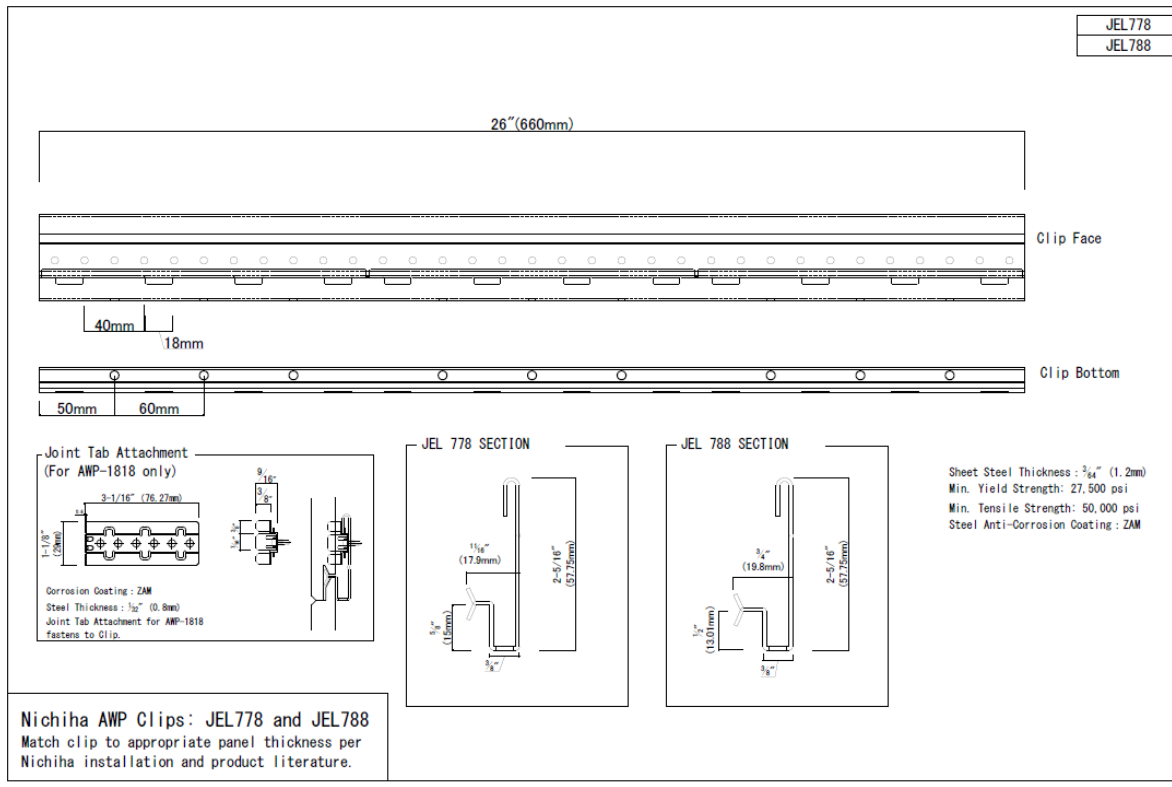
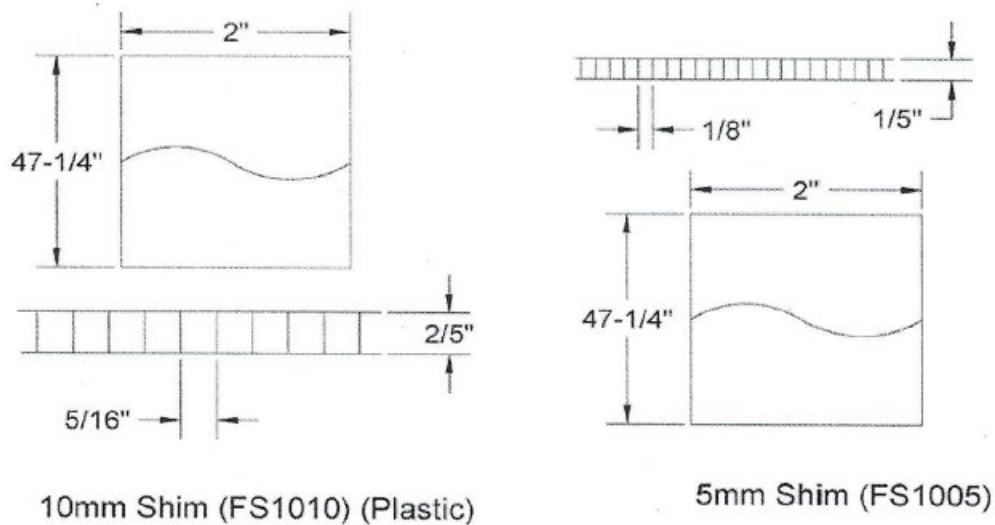

Figure 1 – Panel Clip Details
Figure 4 – Corrugated Shim Details
4.Refer to Fig. 1 through Fig. 4 for Nichiha Clip System Details.
8, Refer to Figs. 1 through 6 for Nichiha Clip System Details.